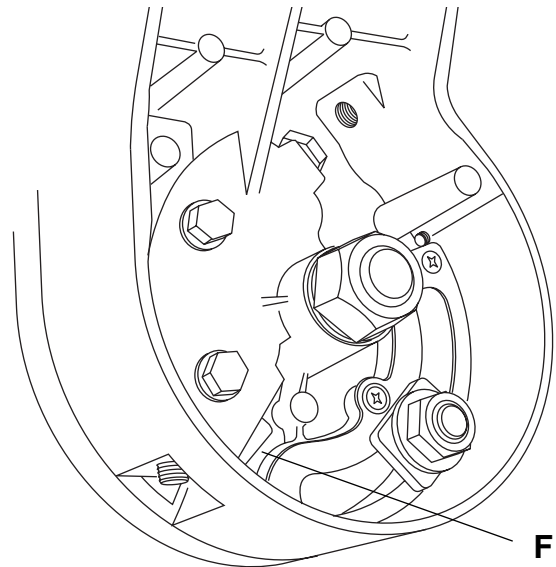

**Figure 7. Blade 45° To The Table**
3. Place combination square frame (remove ruler) with 45 side against the blade. (See figure 7)